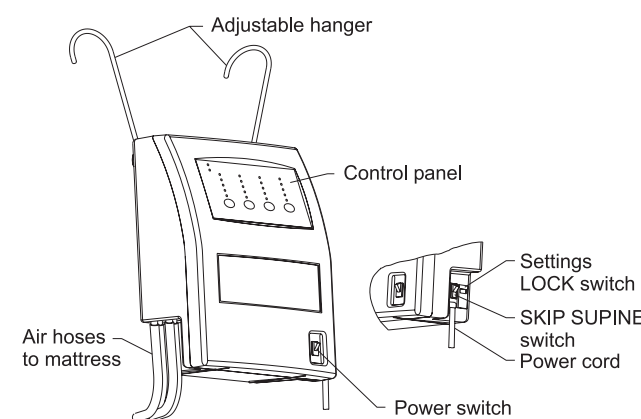

Figure 1—Control Unit
- Lock**—(located on side of unit, see figure 1) Momentarily pressing the LOCK switch locks all settings -- the setting buttons are rendered inactive. The LOCK indicator on the front panel will light when the settings are locked. Pressing the LOCK switch when the LOCK indicator light is lit will unlock the settings. The settings will also become unlocked if the unit is turned off or if a power failure occurs.
Setting both a LEFT ROTATE and a RIGHT ROTATE results in full rotational therapy, from right to supine to left and then back. The optional supine position may be bypassed by engaging the SKIP SUPINE switch (located on the side of the unit (see fig. 1).
11. Lock the control settings (if desired) by pressing the LOCK switch on the side of the unit (see figure 1). Look for the indicator light on the control panel. To unlock the settings and turn off the light, press the switch once when the control unit is in the LOCK mode.